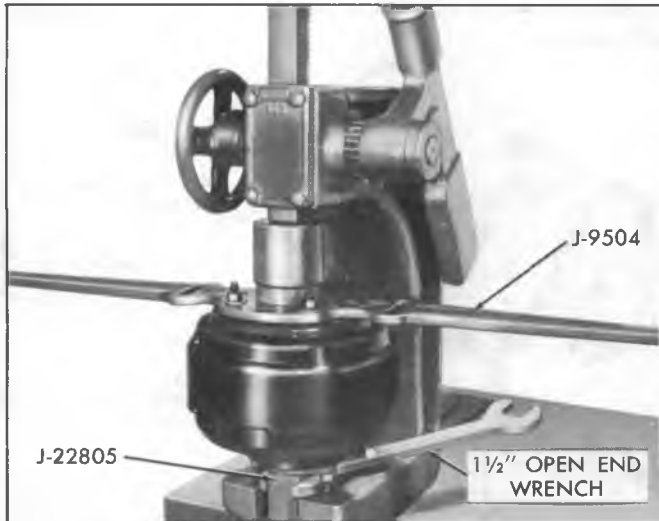

Fig. 4C--Holding and separating Fixture using Tools J-22805 and J-9504 in Arbor Press
12. Place power unit with Holding Fixture J-22805 in an arbor press with rear shell up and secure to plate of press by a suitable means of holding Tool J-22805 (fig. 4C). By using a 1-1/2" open end wrench on Tool J-22805 and allowing unit to turn against back of arbor press, press will hold unit from turning.
13. Place Spanner Wrench J-9504 over studs on rear shell (fig. 4C). Use three washers and nuts to attach wrench to shell. Use a suitable piece of pipe of approximately two inches I.D. and approximately three inches in length. Place over plastic diaphragm plate hub. Place a piece of flat stock steel over end of pipe and press rear shell down far enough to relieve tension of diaphragm rubber lip and spring.
27. Secure Holding Fixture J-22805 on arbor press plate by a suitable means (fig. 4C).